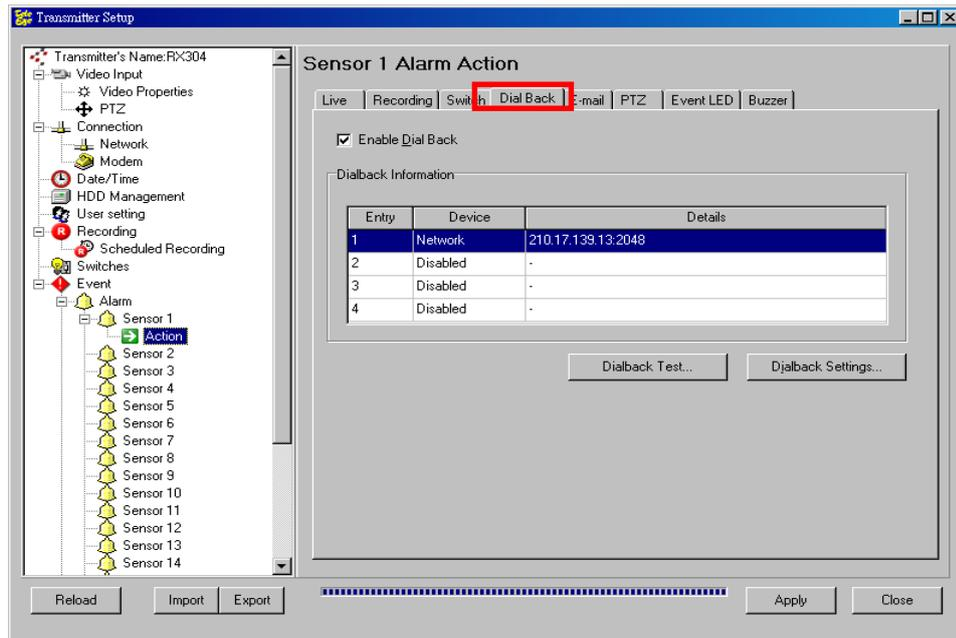

Fig 8.211a
Step 1 : In {Transmitter Setup} panel, click [Event] → [Alarm] → [sensor (No.)] → [Action] → [Dial Back] option to setup email as Fig 8.211a.